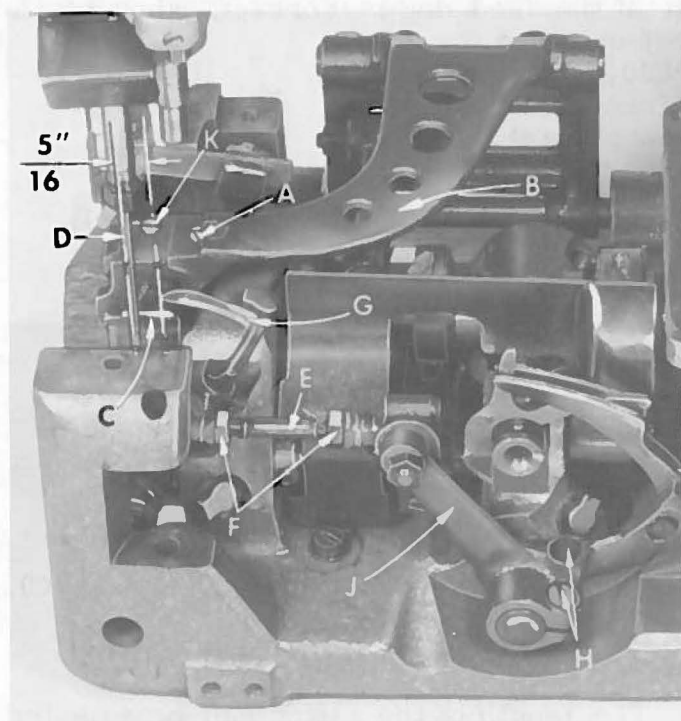
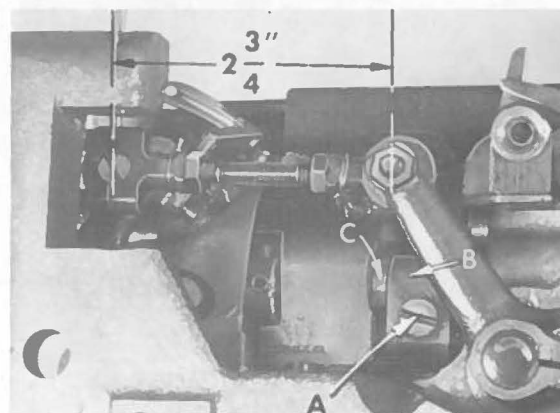
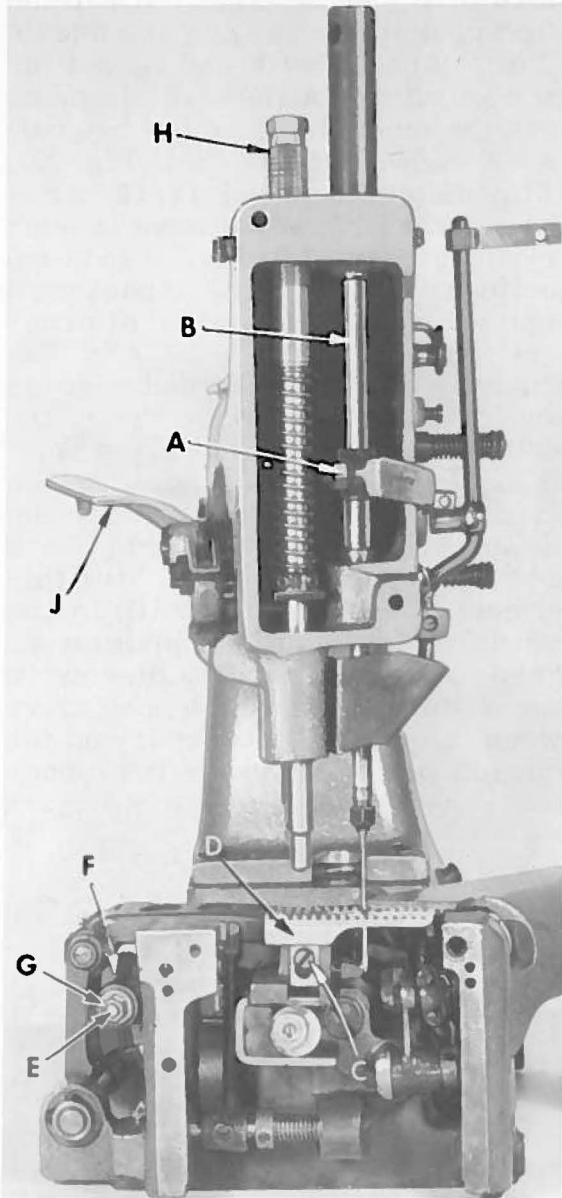
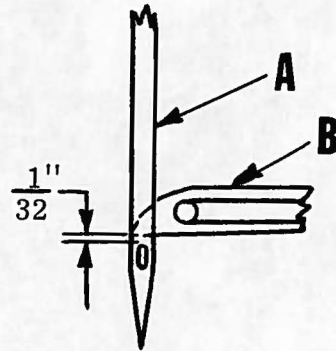

Fig. 2
Fig. 3
Fig. 5
Fig. 4
Remove the presser foot, throat plate and feed dog for convenient access to the machine. Loosen the screw (A, Fig. 2) in the feed bar (B) and push the feed bar needle guard (C) to the rear to avoid its contacting the needle (D). For Styles 80800 E and H, set the looper connecting rod (E) so the distance between the centerlines of the two ball joints is  $2 \frac{3}{4}$  inches (See Fig. 3). This dimension should be  $2 \frac{11}{16}$  inches on Style 80800 F. If adjustment is necessary, loosen nuts (F, Fig. 2) and turn connecting rod (E) forward or backward as required to obtain specified dimension, retighten nuts (F). NOTE: The right nut has a left hand thread. Set the looper (G) so the distance from the centerline of the needle (D) to the point of the looper (G) is  $\frac{5}{16}$  inch, when the looper is at its farthest position to the right. Looper gauge No. 21225-5/16 can be used advantageously in making this adjustment. Loosen screws (H) in the looper drive lever (J), reposition as required to obtain specified dimension
and retighten screws (H) assuring that all end play is taken out of the looper drive lever rocker shaft. Check to insure clearance between the point of the looper and the cylinder end cover when the looper is at its extreme left position. Should the looper strike the end cover, RECHECK the distance between centerlines of ball joints and the looper gauge distance as described above. As the looper moves to the left and its point is even with the right side of the needle, the looper should pass as close as possible to the back of the needle without contacting it (.003 to .005 inch clearance). Adjustment can be made by loosening screw (A, Fig. 3) in looper avoid connection link (B) and turn looper rocker shaft (C) forward or backward as required, retighten screw (A).
For Styles 80800 E and H, the height of the needle (A, Fig. 4) is correct when the top of its eye is  $\frac{1}{32}$  inch below the underside of the looper (B), with the looper point flush with the left side of the needle. This dimension should be  $\frac{3}{64}$  inch on Style 80800 F. If adjustment is necessary, loosen screw (A, Fig. 5) and move needle bar (B) up or down as required and retighten screw.
For Styles 80800 E and H, the height of the feed dog is correct, when at its highest point of travel, the rear teeth project above the throat plate their full depth. On Style 80800 F, the tips of the two rear teeth should project  $\frac{1}{32}$  inch above the throat plate at this point. This can be accomplished by removing the feed dog holding screw (C, Fig. 5) and feed dog (D), then adjusting the stop screw (K, Fig. 2) in feed bar (B) as required to maintain the prescribed setting. Assemble feed dog (D, Fig. 5) and feed dog holding screw (C).
Regulate the pressure on the presser foot using the presser spring regulators (H, Fig. 5) so that the springs exert a pressure sufficient to feed properly. A comparatively heavy pressure is usually required. There should be approximately  $\frac{1}{16}$  inch free play in the presser foot lifter lever (J, Fig. 5) when the presser foot is down.
(D, Fig. 5) and feed dog holding screw (C).
The length of the stitch can be adjusted by raising or lowering the stud (E, Fig. 5) in the segment slot of the feed rocker (F). This can be accomplished by loosening nut (G), lowering stud (E) will lengthen the stitch and raising the stud will shorten the stitch. When desired stitch length position is obtained, retighten nut (G).
Set the feed bar needle guard (C, Fig. 2) so that it barely contacts the needle at its most forward point of travel. Screw (A) secures it in place.